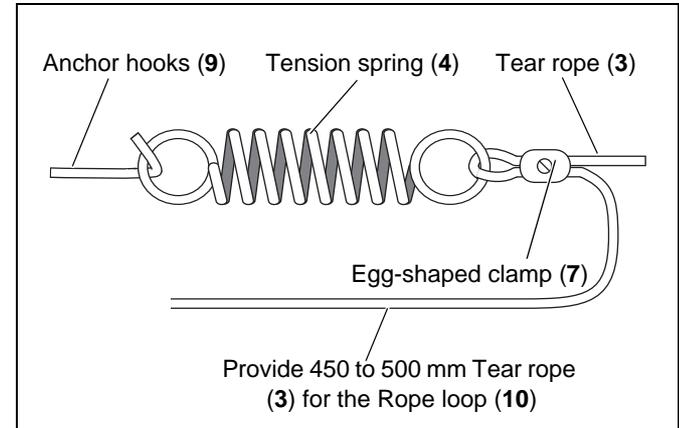

Fig. 5-4: Attaching the tear rope onto the tension spring
4. Hook the Tension springs (4) into the Anchor hooks (9) (*see fig. 5-4*).
- Thread one end of the Tear rope (3) through the eye of the Tension spring (4). Pull the Tear rope (3) about 450 to 500 mm through the eye so that it can form a Rope loop (10) at that end to complete the mounting procedure (see fig. 5-4).